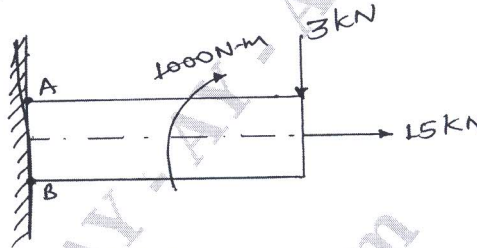

Fig.Q1(b)
- b. A shaft as shown in Fig.Q1(b) is subjected to a bending load of 3 kN, pure torque of 1000 N-m and an axial pulling force of 15 kN. Calculate the stresses at the critical points A and B.